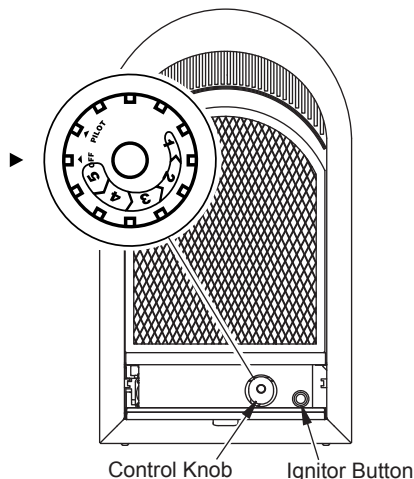

Figure 23 - Control Knob in the OFF Position
5. Wait five (5) minutes to clear out any gas. Then smell for gas around heater and near the floor. If you smell gas, STOP! Follow "B" in the safety information above. If you do not smell gas, go to the next step.
6. Turn control knob counterclockwise  to the PILOT position. Press in control knob for five (5) seconds (see Figure 23).